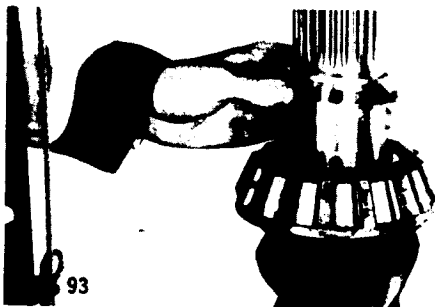

FIG. 93
4. A pinion bearing spacer and shim kit is provided for service repair of differential and carrier assemblies. This kit, consisting of a spacer and quantity of shims, is used to obtain proper pinion bearing preload as described below. Position bearing spacer and one .010" shim on pinion shaft (Fig. 93).